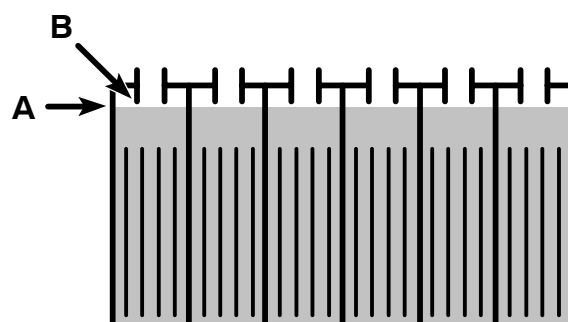

FIG. 26
7. After charging, check the electrolyte level (A) again. The level should be approximately 1 cm from the bottom of the fill-port (B) (Figure 26). Add distilled water if needed. **DO NOT OVERFILL.**